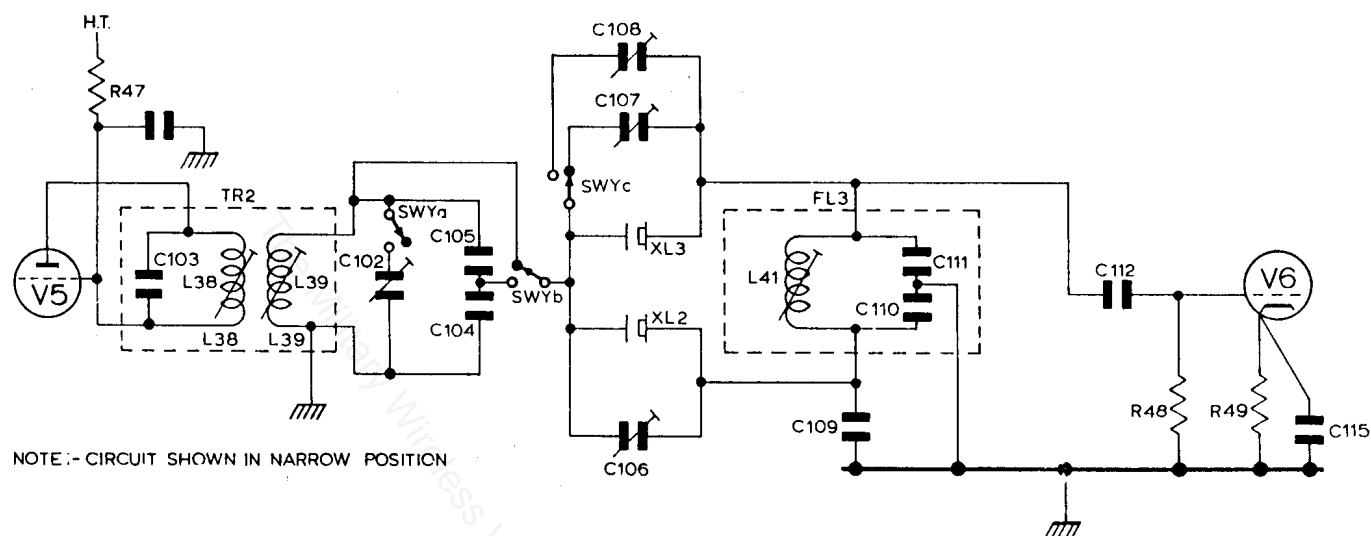

Fig.3.5 Receiver I.f. Selectivity. Narrow and Very Narrow
70. The TR2/TR3 coupling is as shown in Fig. 3.5 when the switch SWY is at either NARROW or VERY NARROW. The coupling between V5 and V6 corresponds with the setting of switch SWY and the alternatives are as follows:-